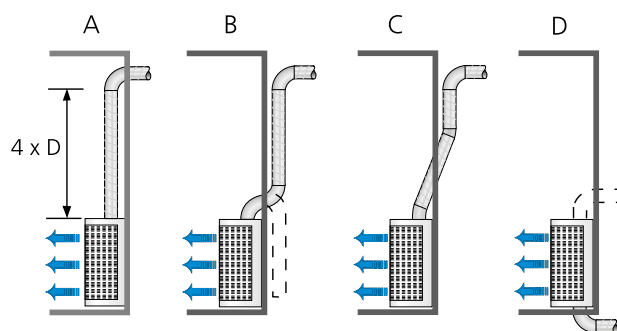

Figure 3. E.g. of how different duct connections affect the sound level of the terminal. See table.
- Sound data increases by about 10 dB(A) if this concerns a standardized room for 10 m² equivalent absorption area.
- Extra consideration must be given to how to connect duct connected diffusers without generating extra additional sound. See figure 3.
- The graphs show data for sound levels in a room with an absorption area equivalent of 150 m² and measured 2 m from the displacement unit and at a straight section without disturbance on straight duct section. See figure 3 how different duct connections will affect the sound level.
- The dB(C) values normally lie 6-9 dB higher than dB(A) values.